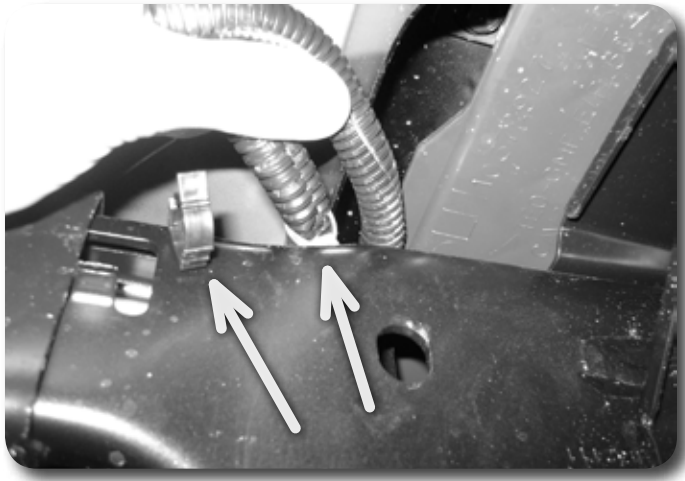

Figure 2
3. Disconnect the wiring from the retaining clips on the outside and top of the driver's side bumper bracket. **Figure 2**